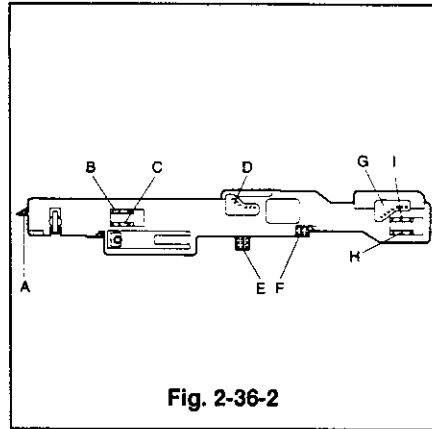

Fig. 2-36-2
- ① Apply specified grease to the area (A-I) shown in Fig. 2-36-2 of the new cam plate-C.